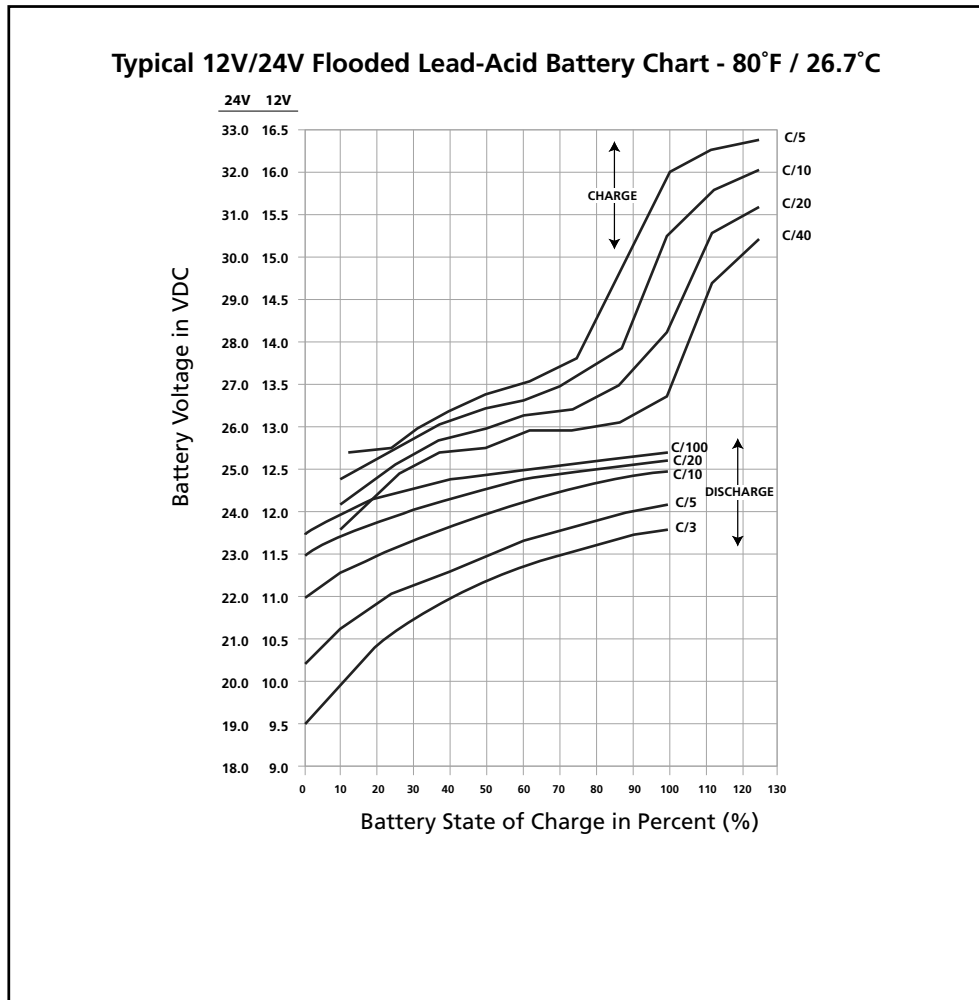

Fig 1.4.1 Charging / Discharging Curves for Typical 12V/24V Flooded Lead Acid Battery
1.4.11.1 Fig 1.4.1 shows examples of State of Charge / Discharge Curves for different *C-rates* for typical 12V / 24V Lead Acid Battery Bank / Bank at 80°F / 26.7°C. These curves are used to determine the State of Charge / Discharge of the battery based on its terminal voltage.
1.4.11.2 **Example of Determining State of Charge (using Fig 1.4.1) when Charging 12V, 100Ah Battery Pack / Bank at C-rate of 0.1C or C/10 or 10A:** Refer to Charge Curve marked C/10 of the upper 4 curves marked "CHARGE". States of Charge at different battery terminal voltages will be: (a) At 15.3V = 100% charged; (b) At 14.3V = 90% charged; (c) At 13.5V = 70% charged; (d) At 12.5V = 15% charged
1.4.11.3 **Example of Determining State of Discharge (using Fig 1.4.1) when Discharging 12V, 100Ah Battery Pack / Bank at C-rate of 0.33C or C/3 or 33.3A:** Refer to Charge Curve marked C/3 of the lower 4 curves marked "DISCHARGE". States of Discharge at different battery terminal voltages will be: [a] At 9.5V = 100% discharged (0% charged); [b] At 10.4V = 80% discharged (20% charged); [c] At 11.5V = 28% discharged (72% charged) and [d] 11.75V = 0% discharged (100% charged).
The discharge curves in Fig. 1.4.1 show the % State of Charge versus the terminal voltage of typical Flooded Lead Acid Battery under different charge /discharge currents, i.e. “C-rates” and fixed temperature of 80°F. *(Please note that the X-Axis of the curves shows the % of State of Charge. The % of State of Discharge will be 100% - % State of Charge).*
As stated earlier at Section 1.4.14, the buzzer alarm is triggered when the voltage at the DC input terminals of the inverter has dropped to around 10.5V for a 12V battery pack / bank or 21V for 24V battery bank at C-rate discharge current of C/5 Amps. Please note that the terminal voltage relative to a particular State of Discharge decreases with the rise in the value of the discharge current. For example, terminal voltages for a State of Discharge of 80% (State of Charge of 20%) for various discharge currents will be as given at Table 1.4.5 (Refer to Fig. 1.4.1 for parameters and values shown in Table 1.4.5):
Inverters are normally provided with a protection to shut down the output of the inverter if the DC voltage at the input terminals of the inverter drops below a threshold of around 10V for a 12V battery or, 20V for 24V battery. Referring to the Discharge Curves given in Fig 1.4.1, the State of Discharge for various C-rate discharge currents for battery voltage of 10V / 20V is as follows: *(Please note that the X-Axis of the curves shows the % of State of Charge. The % of State of Discharge will be 100% - % State of Charge):*